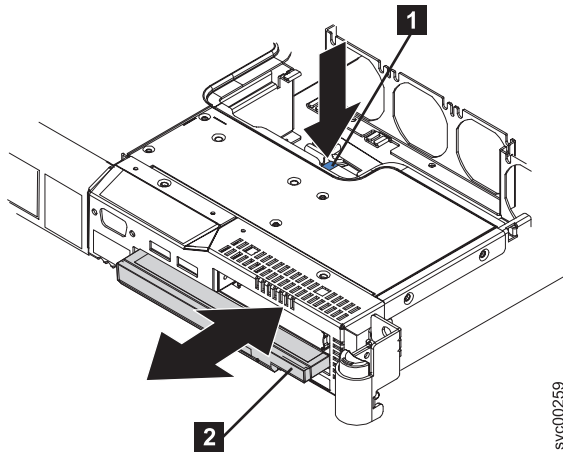

Figure 213. SAN Volume Controller 2145-8G4 dummy CD/DVD drive
3. Release the dummy CD/DVD drive **2** by pressing the release button **1** and sliding the drive out approximately 2 cm (1 in), as shown in Figure 213 on page 219. It is possible to push the drive from the back to start it moving. Do not remove the drive from the casing.